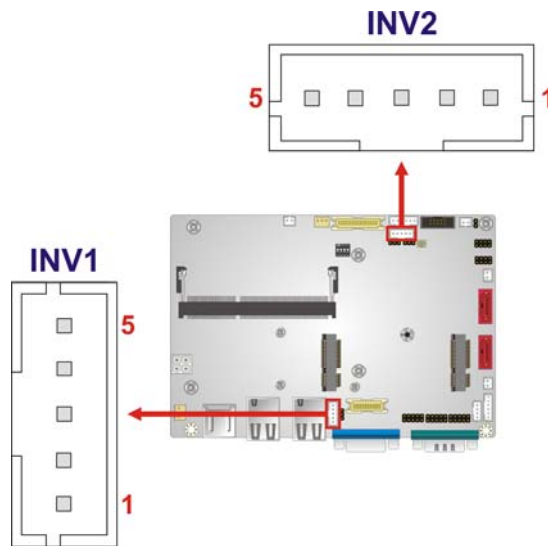

Figure 3-5: Backlight Inverter Connector Locations
- CN Location:** See **Figure 3-5**